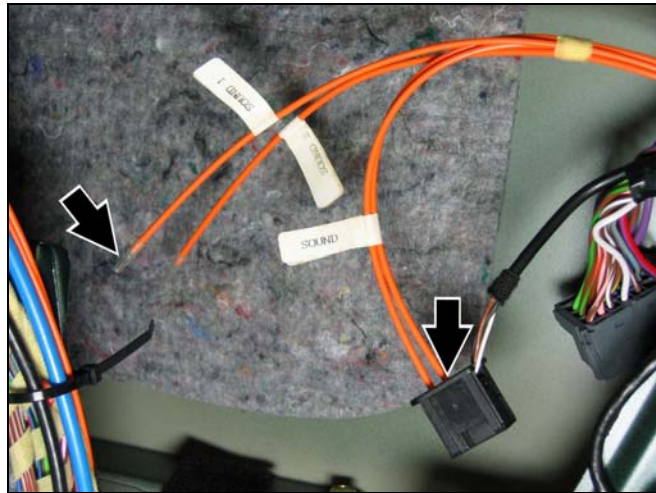

Figure 20
2. At the sound system control module (Figure 20) in the right well of the trunk, configure the MOST ring according to Figure 39 (see below).